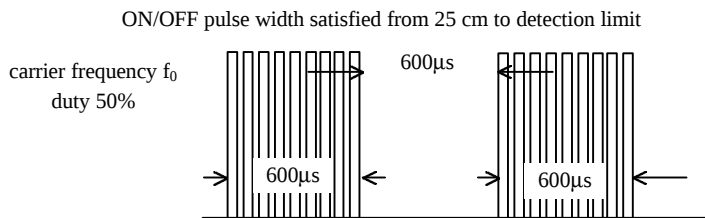

Fig 1. Burst Wave
(1) Measuring placeIndoor without extreme reflection of light.
(2) Ambient light source... Detecting surface illumination shall be 200±50Lux under ordinary hite fluorescence lamp of no high frequency lighting.
(3) Standard transmitter ... Burst wave indicated in Fig 1. of standard transmitter